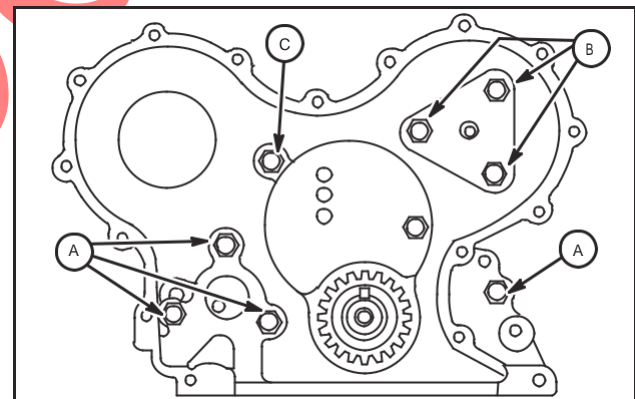

Fig. 15 – Installing Timing Gear Case
2. Install timing gear case with new gasket. Install camshaft retainer, Fig. 15.